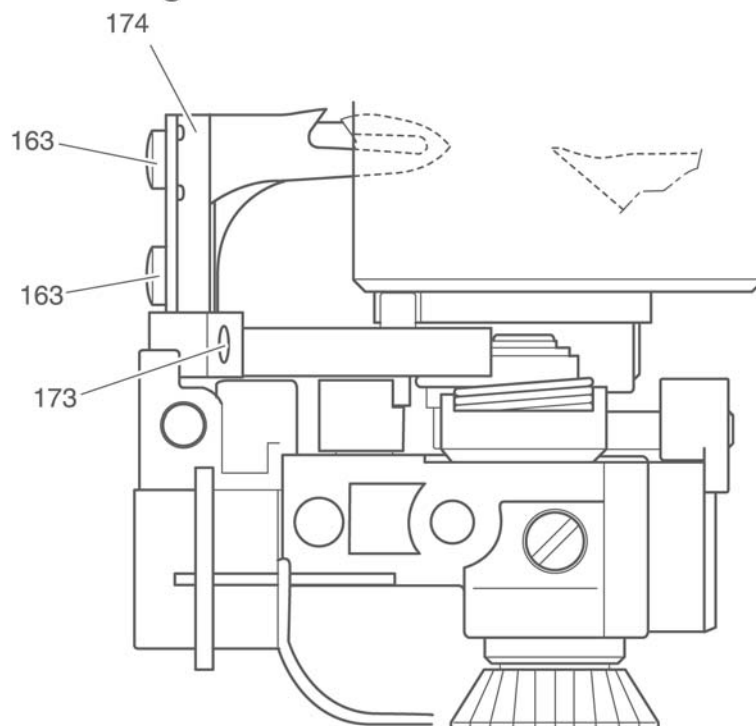

Fig. 47b
- Unscrew the screw 173 and take out knife bracket 174 cpl. (Fig. 47b).
- Release screw 173 somewhat (Fig. 47b).